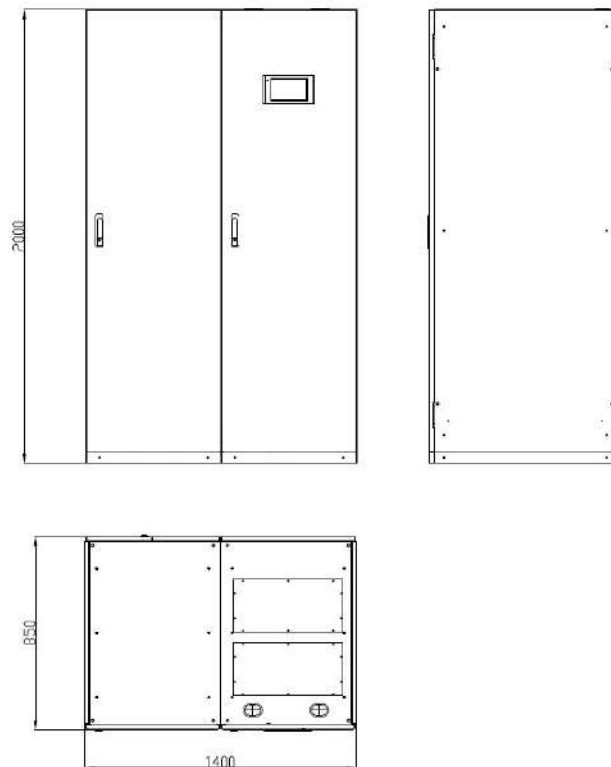

Fig. 2-3 Cabinet dimension of 600kVA UPS (unit: mm)
3) The overall dimensions of 600kVA UPS is shown in Fig. 2-3.